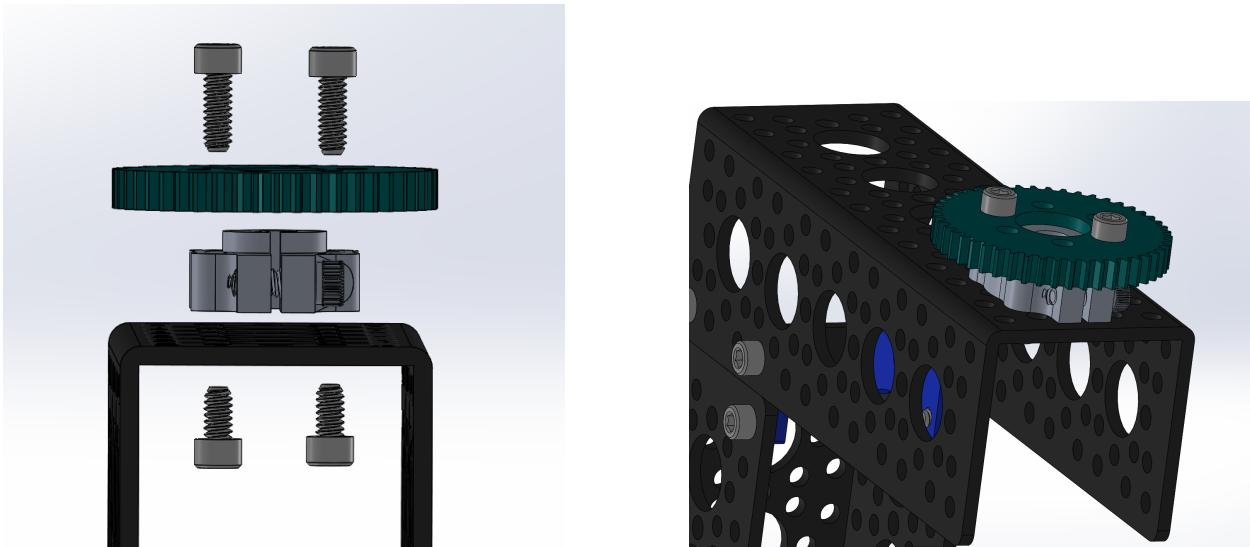

Figure 7: Corner Wheel Step 3
3. **D-Clamping Hub Attachment:** Attach the 0.25 Inch clamping hub **S12** and the plane bore gear **S26** to the channel using screws **B3** from the top and **B1** from the bottom as shown in Figure 7.